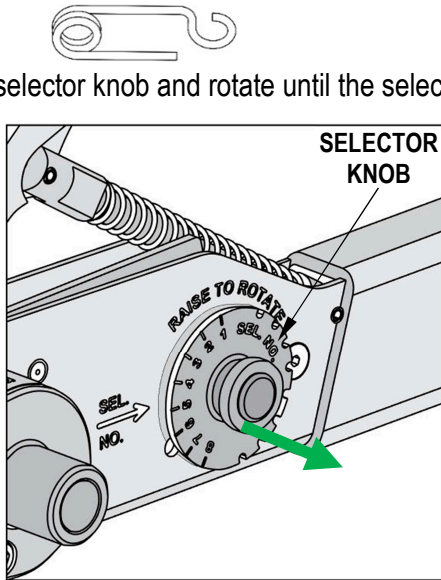

Figure 2
4. Pull the selector knob and rotate until the selector number is in line with "SEL. NO." index mark. See Figures 2 and 3.